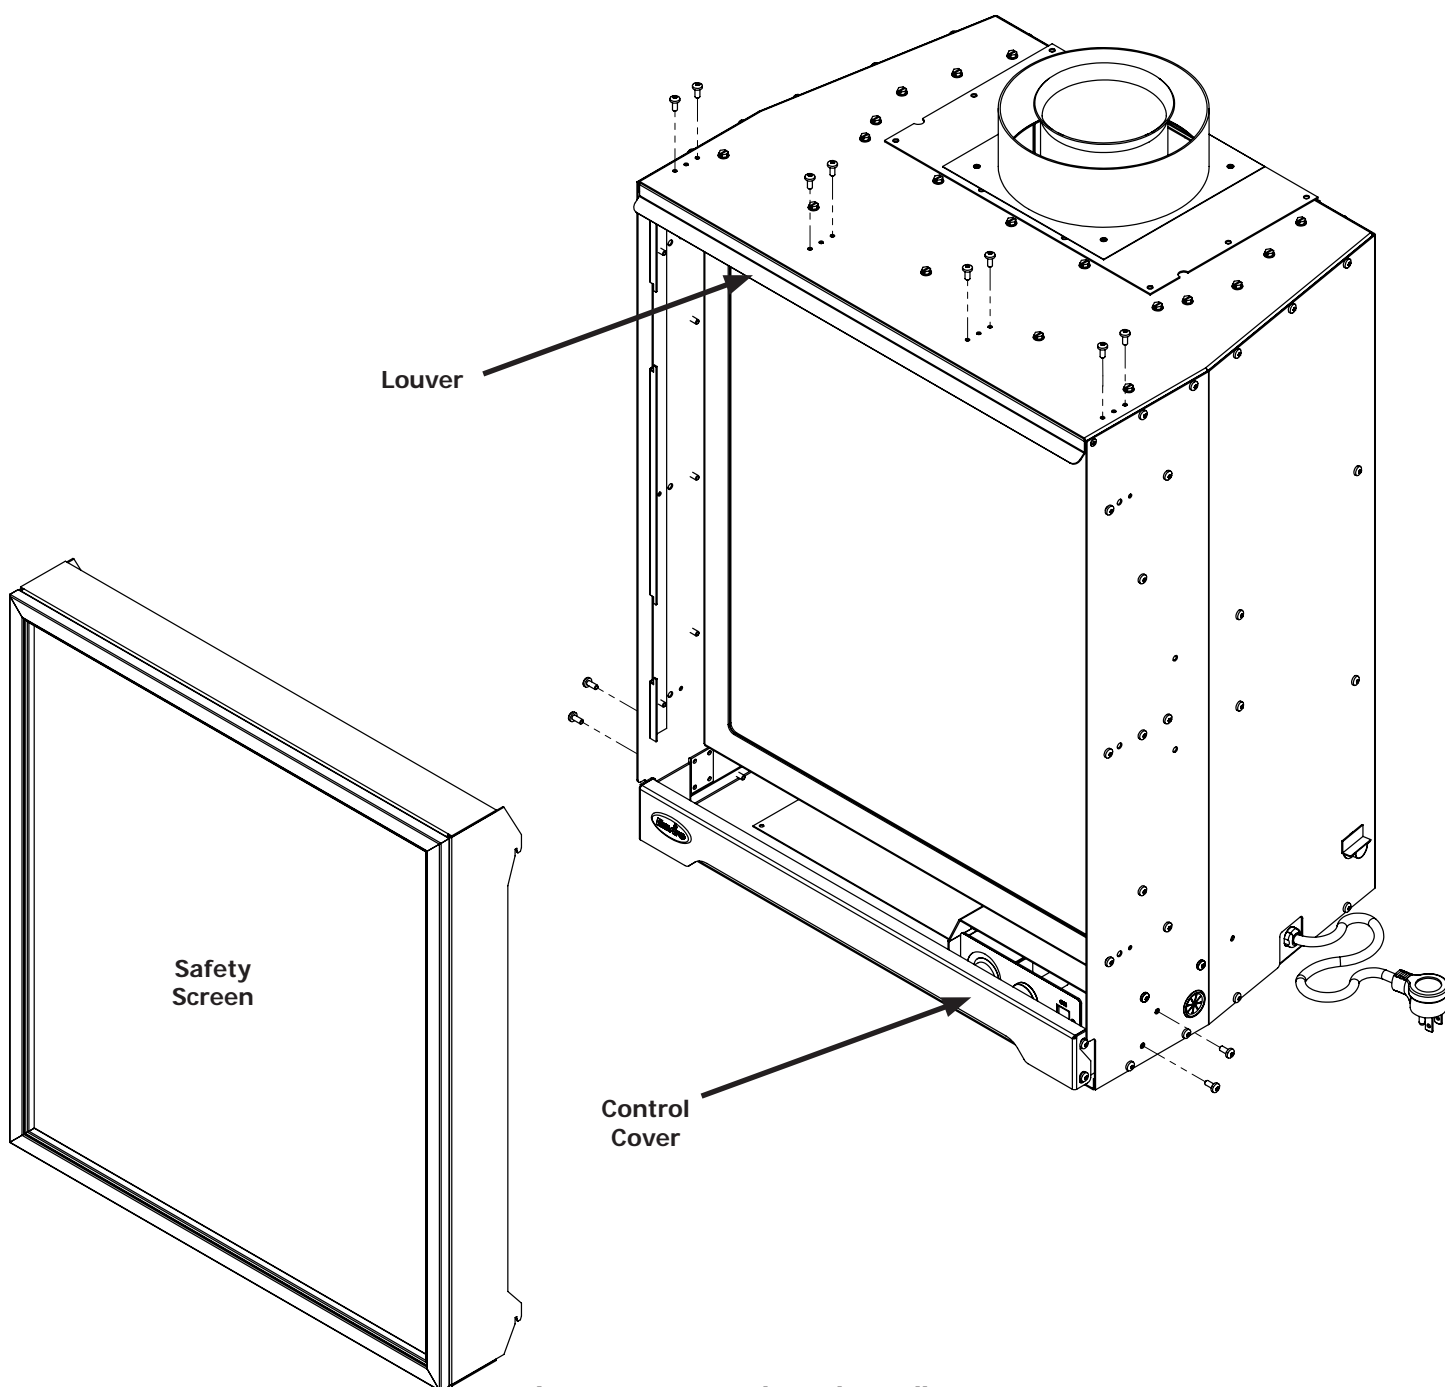

Figure 33. Surround Panel Install.
2. Use a T20 screwdriver to remove the two (2) screws on each side of the Control Cover as shown in Figure 33.
3. Use the same screw driver to remove the eight (8) T20 screws that hold the Louver to the top of the cabinet.